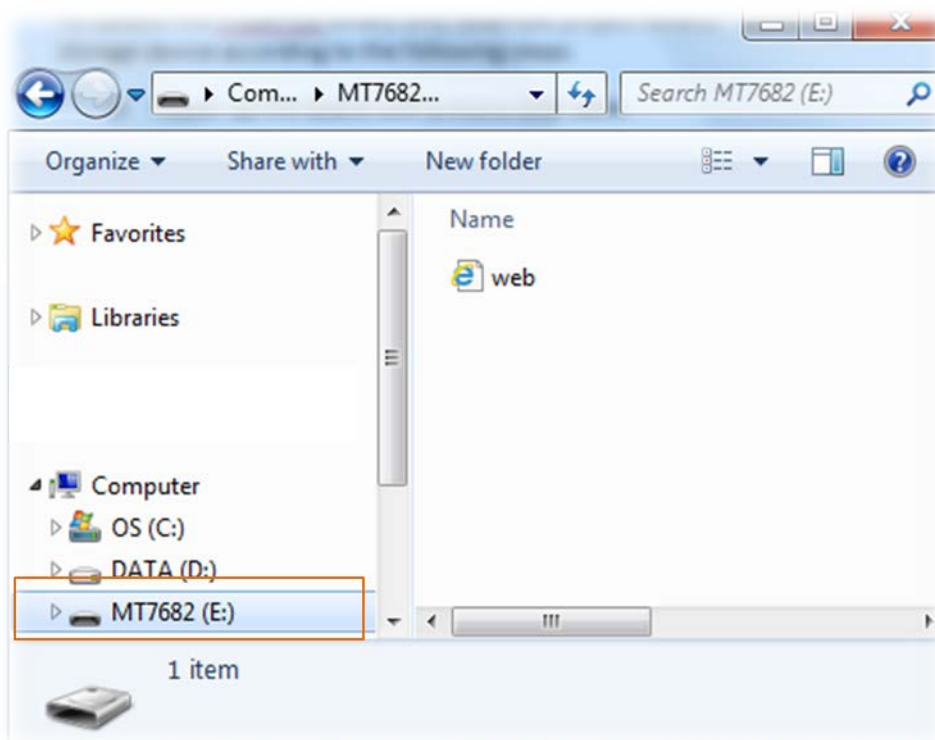

Figure 4. New removable storage detected
- 2) Navigate to **Computer** on your PC to check if a new mass storage named **MT7682** is available under **Removable Disk**, as shown in Figure 4.